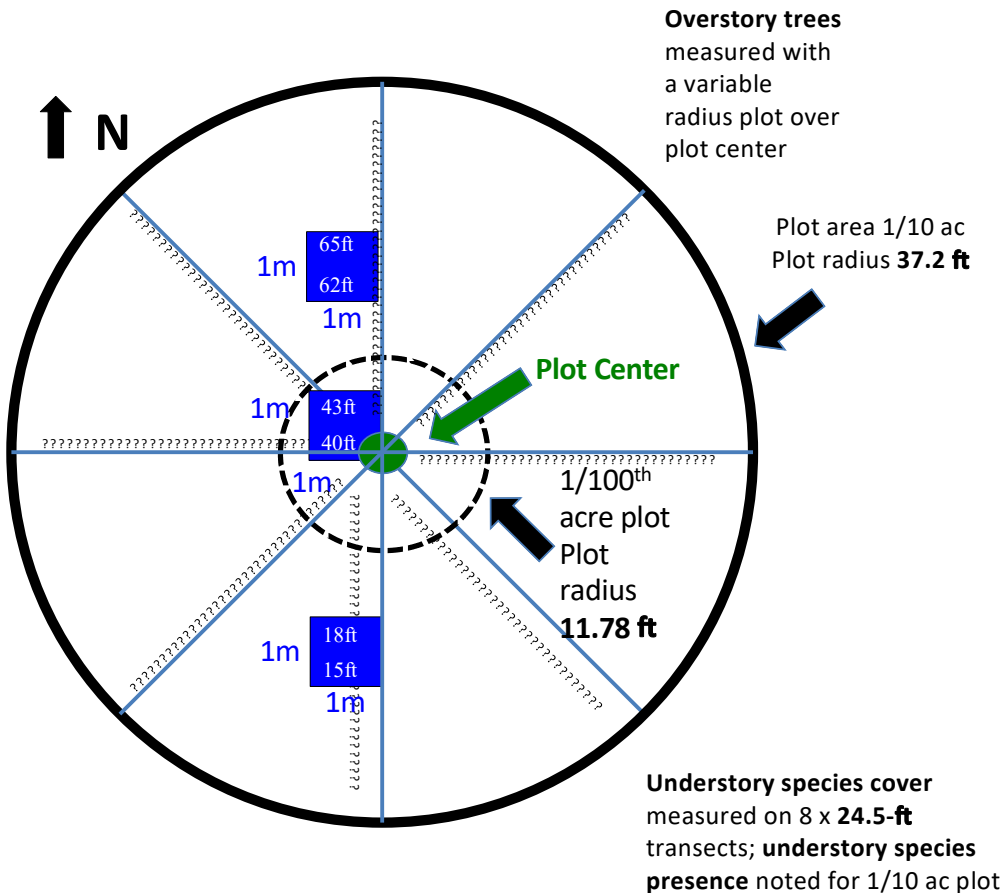

Figure 1. Diagram of the CFRI Forest Restoration and Fire Mitigation Effectiveness Assessment sample plot
3. Each of the three 1m2 Sample frames are placed to the left (west) of the north-south transect as depicted in Figure 1. The frames should be located adjacent to the 15 – 18 foot mark on the tape (25 feet south of the center), at the plot center (40 – 43 foot marks), and adjacent to the 62 – 65 foot marks (22 feet north or center, refer to Figure 1). To avoid trampling vegetation and woody fuels, walk on the right side of the transect as much as possible.